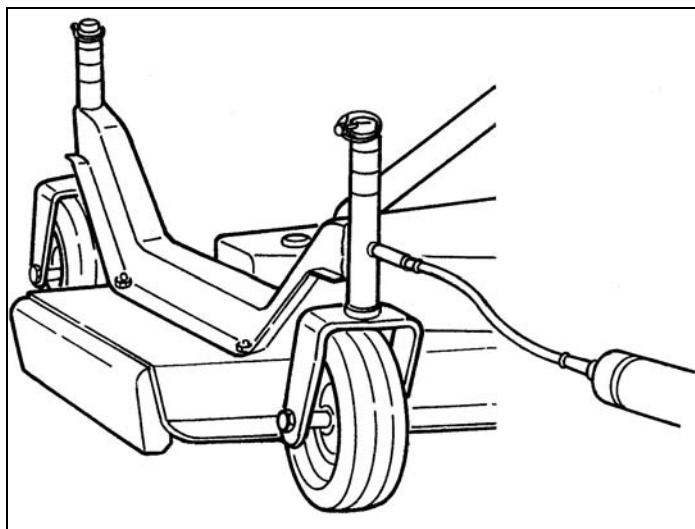

Fig. 9
1. **Lubricate the driveline (see fig. 8) and the wheel yokes (see fig. 9):** Apply two or three shots of grease to the driveline cross and bearings and to the inner and outer locking rings; apply the same amount to the wheel arm grease fittings. See the driveline manufacturer operator's manual for further information on the driveline.